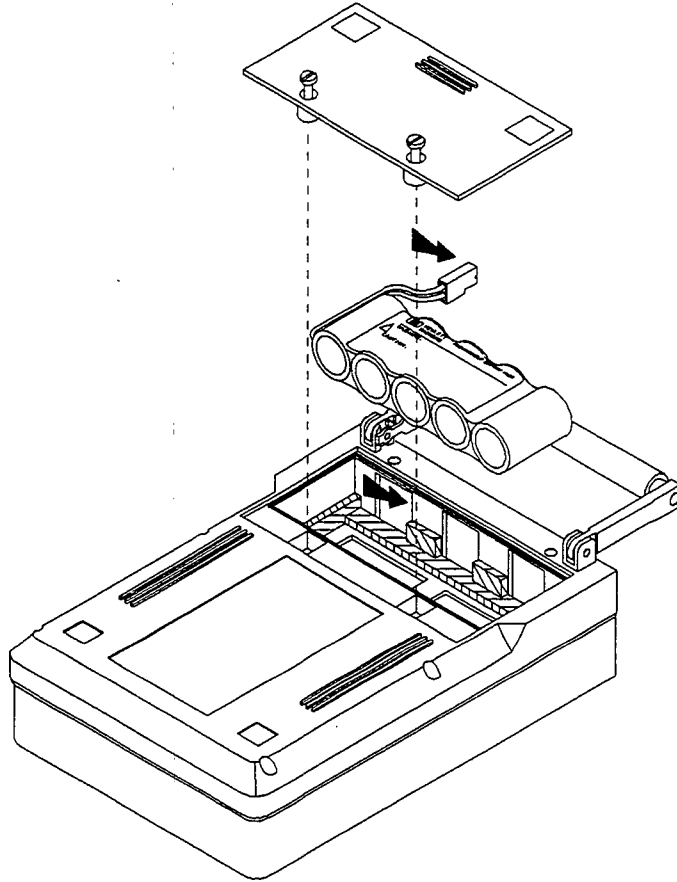

Figure 6-1.
2. Remove the two screws from the battery cover plate as shown in figure 6-1.